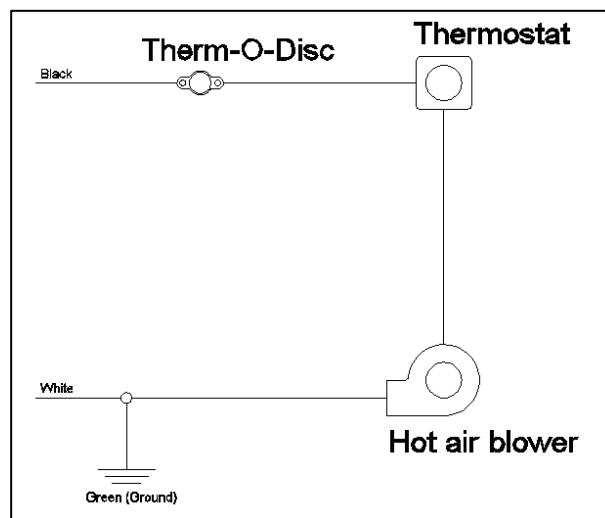

Figure 4-3: Electrical Diagram for Hot Air Kit
9. Make the electrical connections (Figures 4-3 and 4-4). Note that the power supply to the blower is 115V.